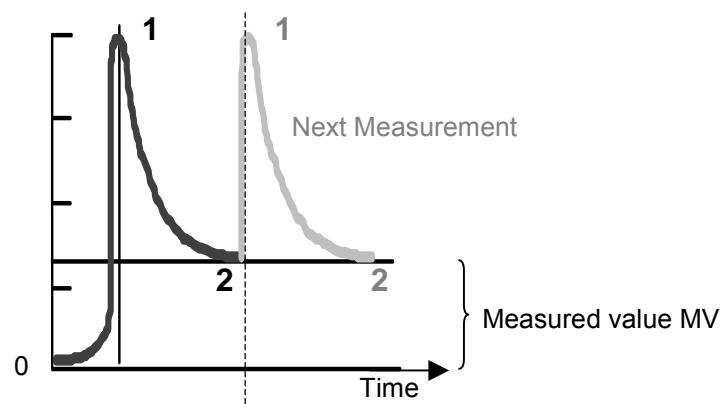

Fig. 14 Schematic Osmogram for a one droplet exchange
1. Apply a new sample droplet — The signal indicates a positive overload, see **1** in Fig. 14.
2. A constant measurement value will be reached when the signal decreases until thermal equilibrium is reached, see **2** in Fig. 14.